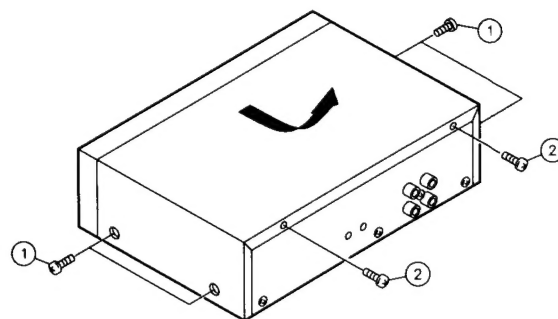

Fig. 2 - 1
◆ Top cover (Fig. 2 - 1)
1. Remove four screws ① retaining the top cover from both side.
2. Remove two screws ② retaining the top cover from the back side.
3. To remove the top cover, slide in direction of arrow and lift away (refer to Fig. 2 - 1).
◆ Front panel assembly (Fig. 2 - 2, 2 - 3, 2 - 4)